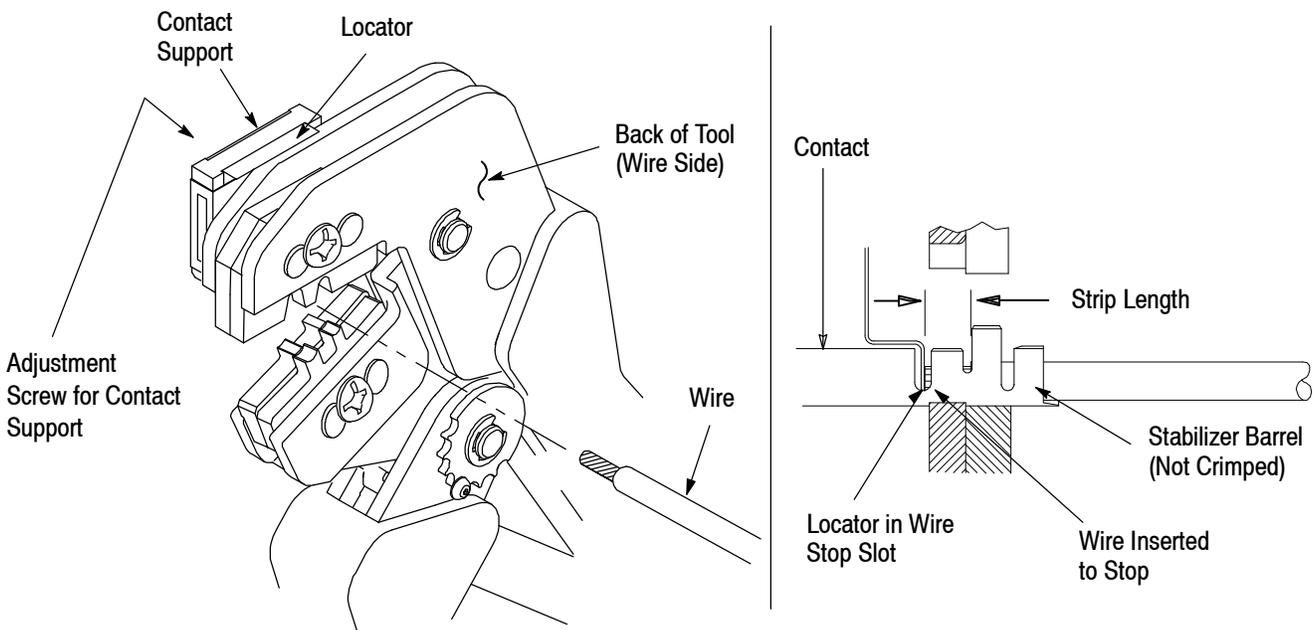

Figure 3
4. CONTACT SUPPORT ADJUSTMENT (Figure 3)
Refer to the table in Figure 1 and select wire of the specified size and insulation diameter. Strip the wire to the length indicated in Figure 1, taking care not to nick or cut wire strands. Select an applicable contact and identify the appropriate crimp section according to the wire size markings on the tool. Refer to Figure 3 and proceed as follows:
3. Position the contact so that the mating end of the contact is on the locator side of the tool, and so that the open “U” of the wire and insulation barrels face the top of the tool. Place the contact up into the nest so that the movable locator drops into the slot in the contact. Refer to Figure 3. Butt the front end of the wire barrel against the movable locator.
5. Insert stripped wire into contact insulation and wire barrels until it is butted against the wire stop, as shown in Figure 3.
NOTE The crimped contact may stick in the crimping area, but the contact can be easily removed by pushing downward on the top of the locator (see Figure 3).
- Revision to figure 3 to illustrate the contact stabilizer; and